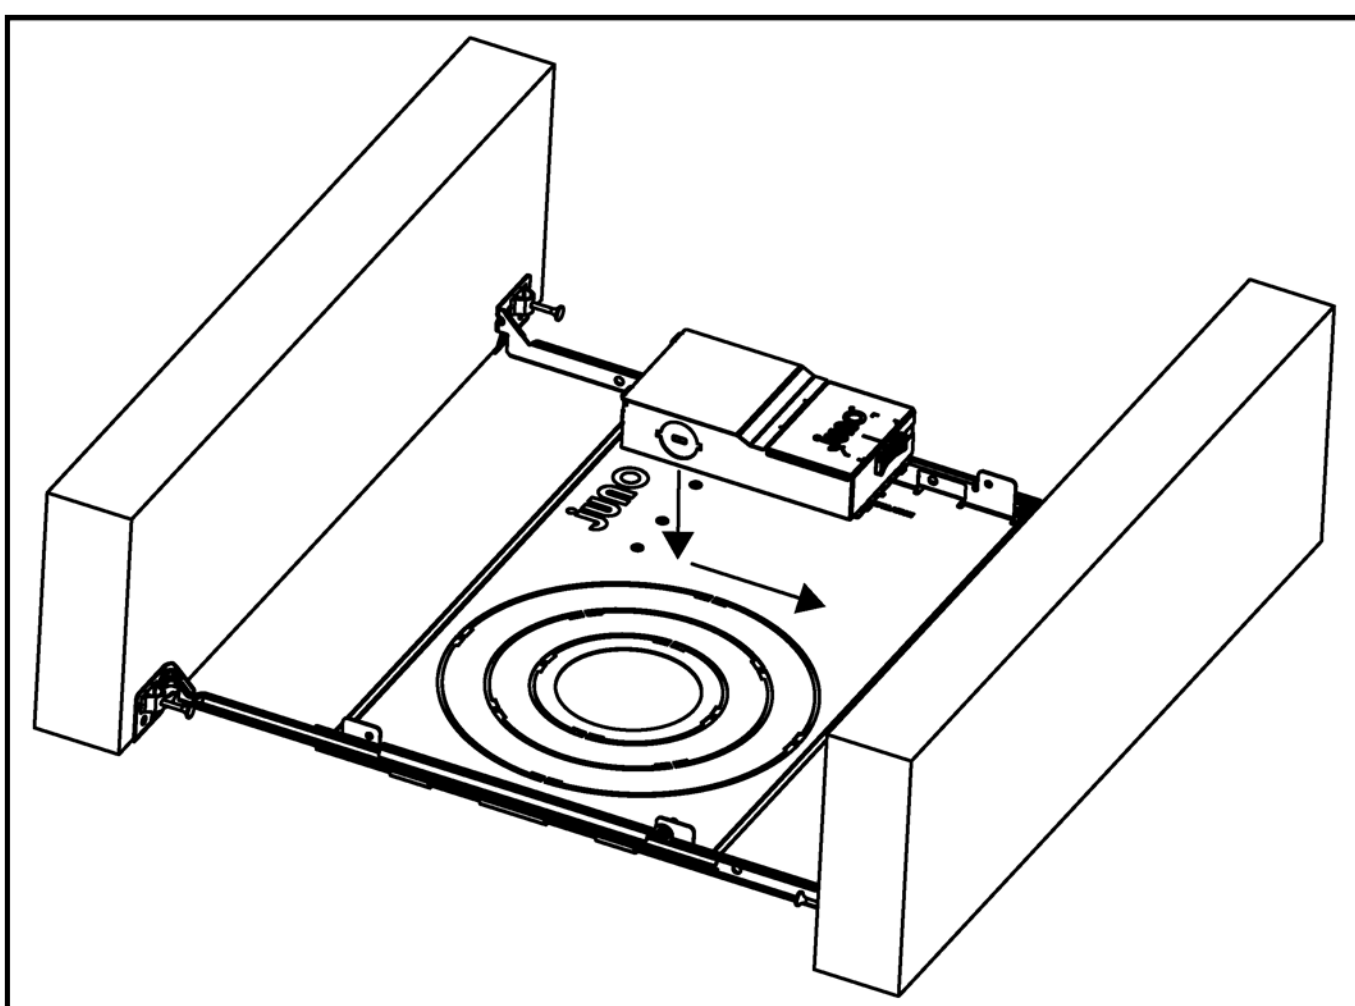

Figure 3
3. Secure Wafer Junction Box by placing it through the screw on the new construction plate and slide it down to secure it to the plate. See fixture installation instruction sheet for wiring method. (See Figure 3).